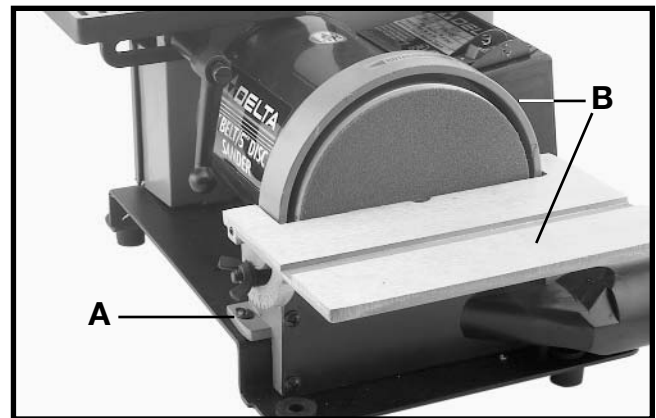

Fig. 25
2. Remove the two screws, one of which is shown (A) Fig. 25, and remove the sanding disc guard and table (B).